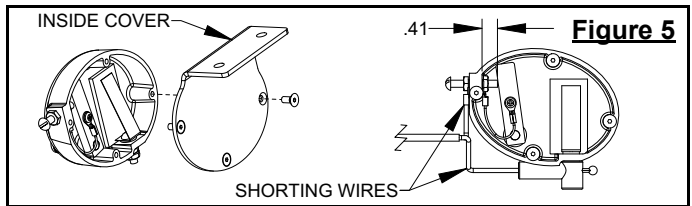

Figure 5
1. Assemble wire harness (9) to both screws on safety switch (15) and reset screw height as shown in Figure 5.